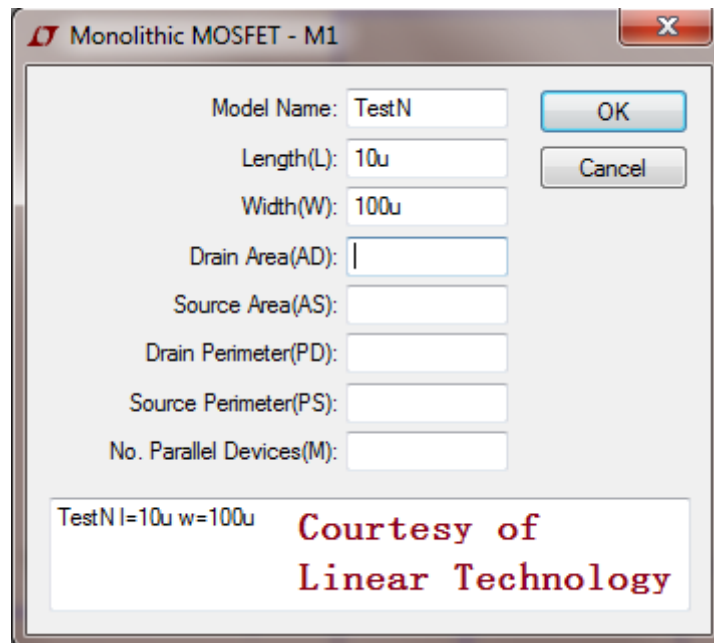

Fig. 6 Setup the channel length and width for the NMOS transistor
Then, WITHOUT holding the “Ctrl” key, right click on the NMOS model. In the pop-up window, input the Length (L) and Width (W) values as L=10u and W=100u (as shown Fig. 6). Note that the bottom dialogue box shows “TestN l=10u w=100u”, which means we have successfully set the NMOS model to our self-defined model, TestN and we have set the channel length and width to 10um and 100um, respectively.